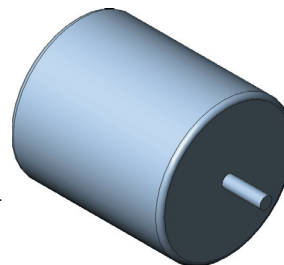
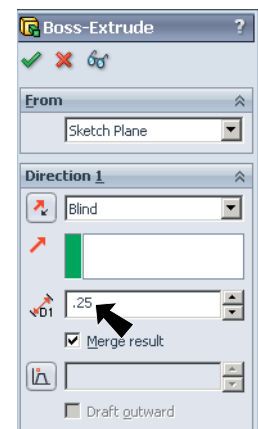

Fig. 10
Fig. 9
- Step 10. Set **Depth**  to **.25** in the Extrude Property Manager and click **OK** , **Fig. 9** and **Fig. 10**.